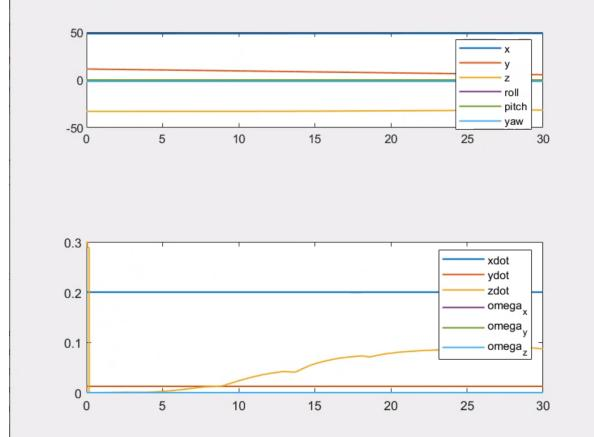

Figure 7: Resulted graph during the Minimum Altitude Vehicle task imposed 1m distance
- **1 m:** This time the problem is the opposite. The control task is no more active at the starting instant. The UVMS starts to accomplish the Vehicle Position Control task, when the seafloor present an hill the UVMS start to follow the pattern (Figure 7). However, there are some troubles during the navigation because the "noise" of the robot, with only 1 meter of distance (and no  $\Delta$  that could prevent this), could touch the soil because the sensor it's on the center of the vehicle.